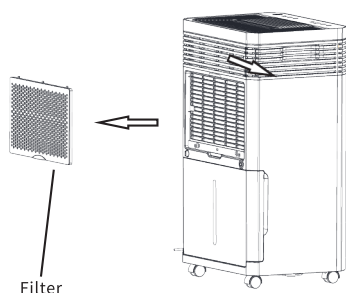

Fig.4
- 1.Take out the filter from the back and side of the dehumidifier.(fig.4)